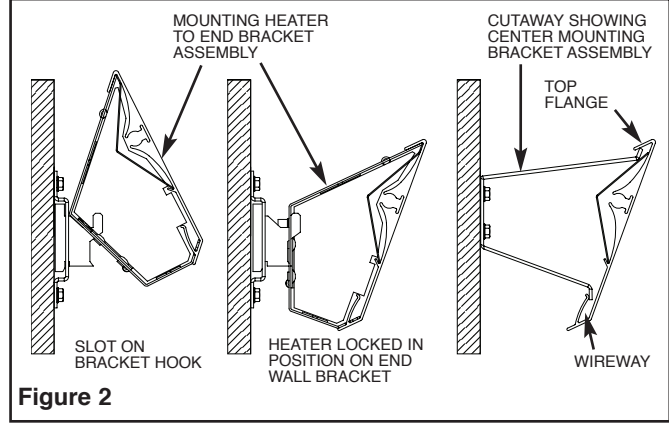

Figure 2
Mount the heater to the center bracket by hooking the top flange of the heater assembly onto the top edge of the center bracket(s). See cutaway in figure 2. Align the heater so that the hooks of the end brackets can be inserted into the slots located on the back side of the junction boxes.
2. Attach junction box heater assembly by tilting heater back and allowing the slot to fall onto bracket hook. Then simply bring heater forward, locking into place. See figure 2.
Lock the center bracket to the front panel of the heater by applying upward motion to the bottom of the center bracket while pushing the front panel toward the wall. This will lock the lower hook of the center bracket into the slot of the wireway. See cutaway in figure 2.